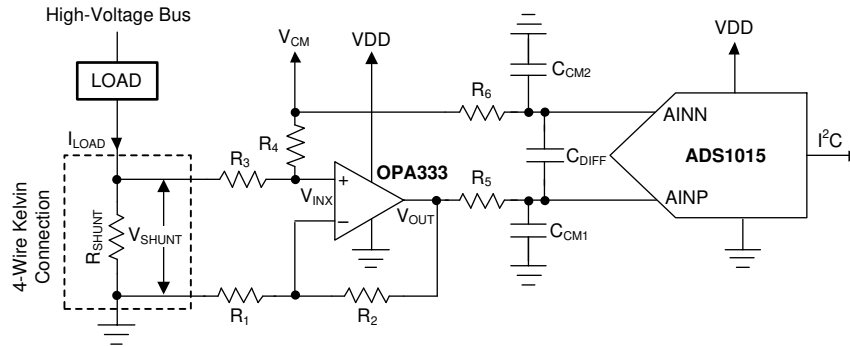

Figure 9-6. Low-Side Current Shunt Monitoring
Shunt-based, current-measurement solutions are widely used to monitor load currents. Low-side, current-shunt measurements are independent of the bus voltage because the shunt common-mode voltage is near ground. Figure 9-6 shows an example circuit for a bidirectional, low-side, current-shunt measurement system. The load current is determined by measuring the voltage across the shunt resistor that is amplified and level-shifted by a low-drift operational amplifier, OPA333. The OPA333 output voltage is digitized with ADS1015 and sent to the microcontroller using the I²C interface. This circuit is capable of measuring bidirectional currents flowing through the shunt resistor with great accuracy and precision.
1. To level-shift the ground-referenced signal to allow bidirectional current measurements while running off a unipolar supply. The voltage across the shunt resistor, V_{SHUNT}, is level-shifted by a common-mode voltage, V_{CM}, as shown in Figure 9-6. The level-shifted voltage, V_{INX}, at the noninverting input is given by Equation 3.
A shunt resistor (R_{SHUNT}) is an accurate resistance inserted in series with the load as described in Figure 9-6. If the absolute voltage drop across the shunt, $|V_{SHUNT}|$, is a larger percentage of the bus voltage, the voltage drop can reduce the overall efficiency and system performance. If $|V_{SHUNT}|$ is too low, measuring the small voltage drop requires careful design attention and proper selection of the ADC, operation amplifier, and precision resistors. Make sure that the absolute voltage at the shunt terminals does not result in violation of the input common-mode voltage range requirements of the operational amplifier. The power dissipation on the shunt resistor increases the temperature because of the current flowing through the resistor. To minimize the measurement errors resulting from variation in temperature, select a low-drift shunt resistor. To minimize the measurement gain error, select a shunt resistor with a low tolerance value. To remove the errors caused by stray ground resistance, use a four-wire Kelvin-connected shunt resistor; see Figure 9-6.